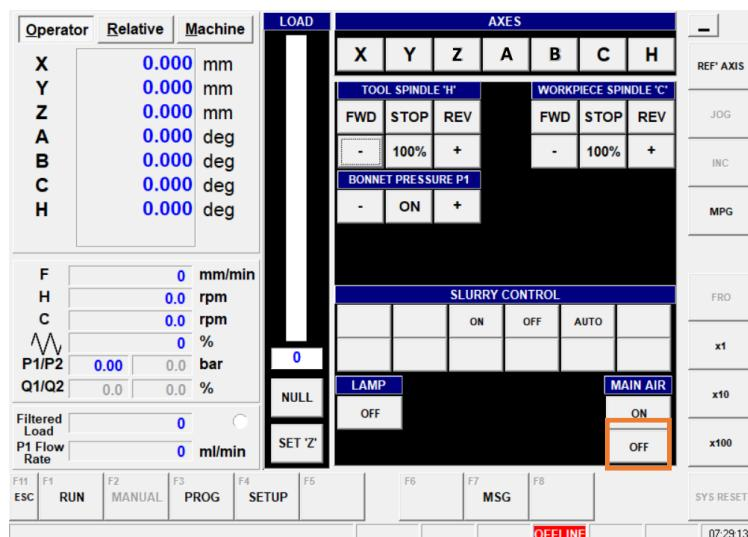

Figure 19 - Compressed air supply OFF
1. Switching off the compressed air (Main Air) supply to the machine, is activated from the “Manual” menu in the Zeeko GUI. This is done by pressing the “Manual button” from the main screen and then pressing the OFF button for the main air. See (Figure 19 - Compressed air supply OFF).